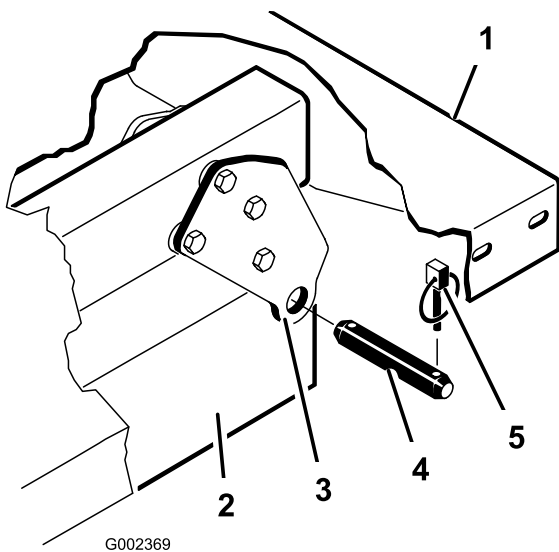

Figure 31
**Note:** Ensure that the rear pivot plates are bolted to the bed frame/channel so that lower end angles to the rear (Figure 31).